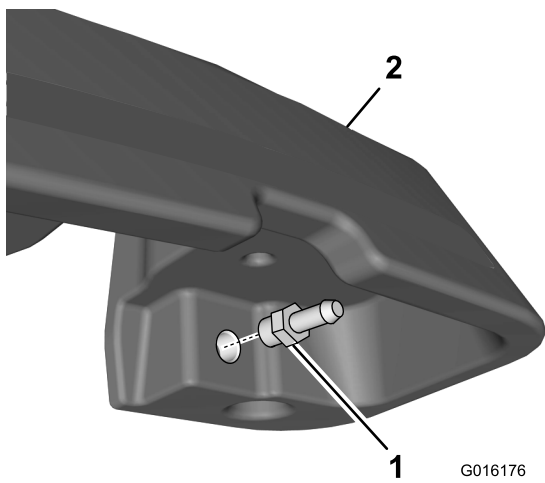

Figure 10
13. Install the straight-hydraulic fitting into the opening on the underside of the leak-detector tank (Figure 10).